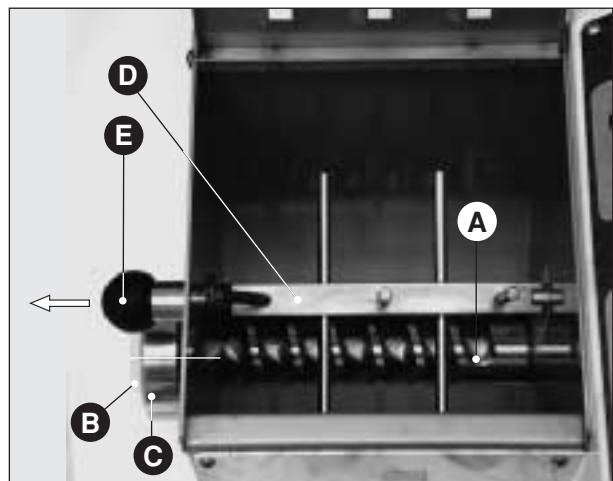
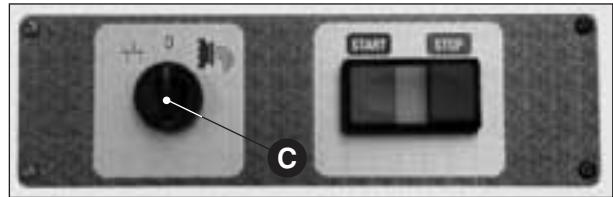

Fig. 1
Fig. 2
- position the selector on "0" (**Fig. 2 C**) and verify the correct set-up of the Archimedean screw (**Fig. 1 A**) making sure that the cylinder part is sustained by the dragging shaft;
- then make sure that the plastic cap (**Fig. 1 B**) which replaces the drawplate is correctly positioned and the ring nut (**Fig. 1 C**) is tightly well-screwed on;